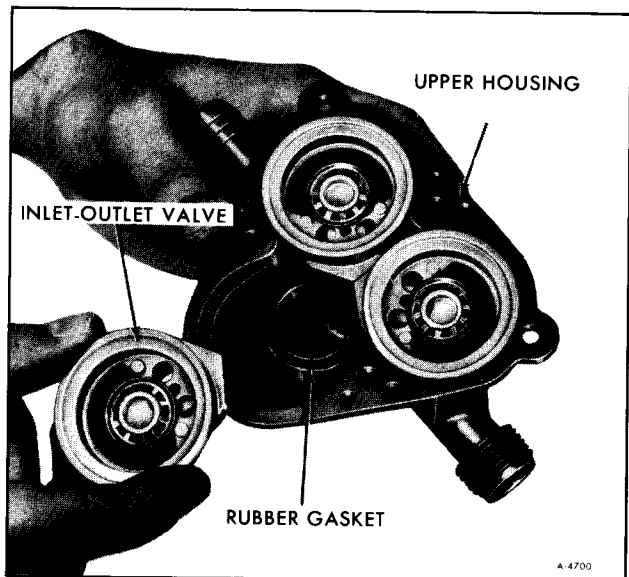

Figure 29—Removing Inlet-Outlet Valves
5. Inside the upper housing are three inlet-outlet valve assemblies. They can be removed by hand. After removing all three valve assemblies, remove the rubber gasket by hand (figure 29).
7. Place rubber gasket in upper housing, then place three inlet-outlet valves over gasket (figure 29).